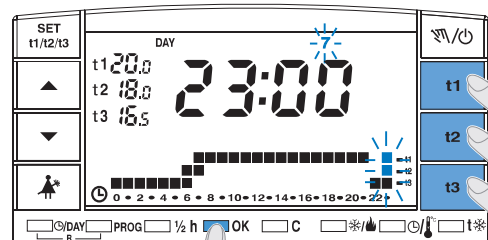
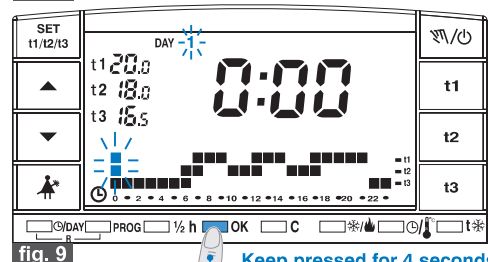

fig. 8
fig. 9
Once the temperature scale is entered for **Sunday (7)**, press **OK** (example fig. 8) to save and return to the Monday (1) setting, **then press OK again for 4 seconds** (fig. 9); this operation **saves the complete weekly program**.